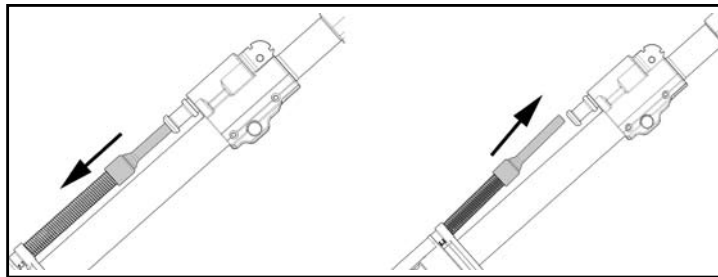

Fig. 32 – Removing Piston Rod
- c. Grasp the rear of the gas piston while pushing back on the piston rod. Disengage the piston rod from the piston and slide out the piston rod from the upper receiver (Fig. 32).